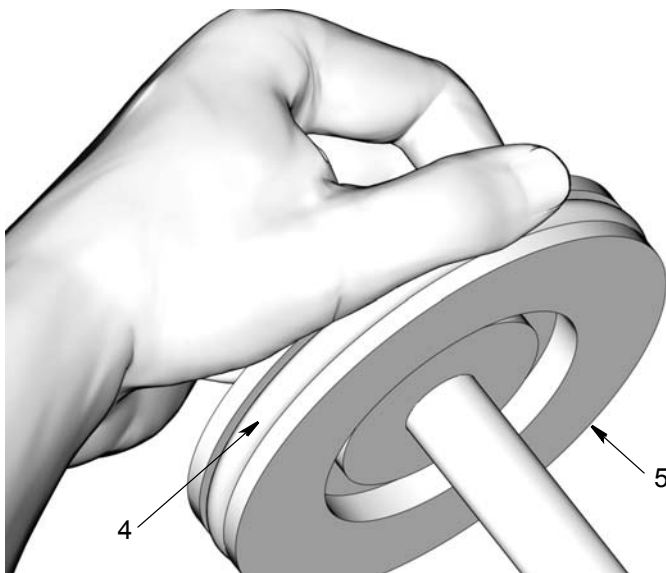

FIG. 33
8. Apply a thin layer of grease to piston seal (4). Install seal around piston (5) as shown in FIG. 33.